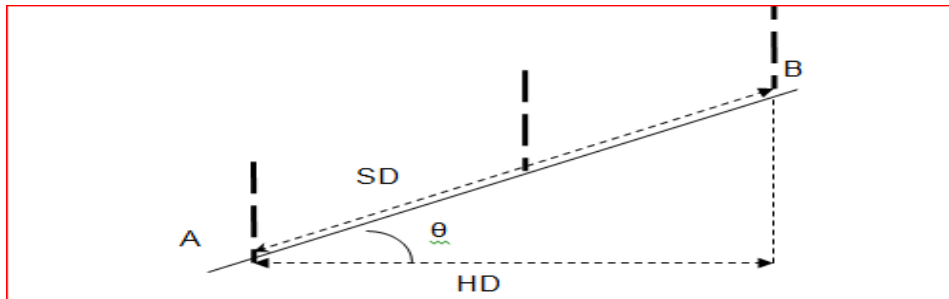

Figure 2.5 Determining the horizontal distance using the trigonometric method
- The inclination of the ground is observed by a clinometer and measuring the surface distance (SD) using measuring tape and the measurement along the ground is reduced by the calculation below (figure 2.5) $HD = SD \cdot \cos \theta$